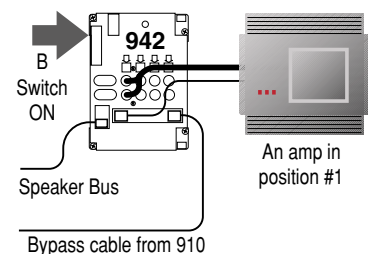

Figure 27. Amplifier Bypass configuration. No amp may be connected to position #4.
2. Connect one end of the Front High-Level Bus to the fourth position on the last 942 module in the Front Amplifier Product Group (see Figure 27). Turn on the "B" switch to activate bypass on that module.